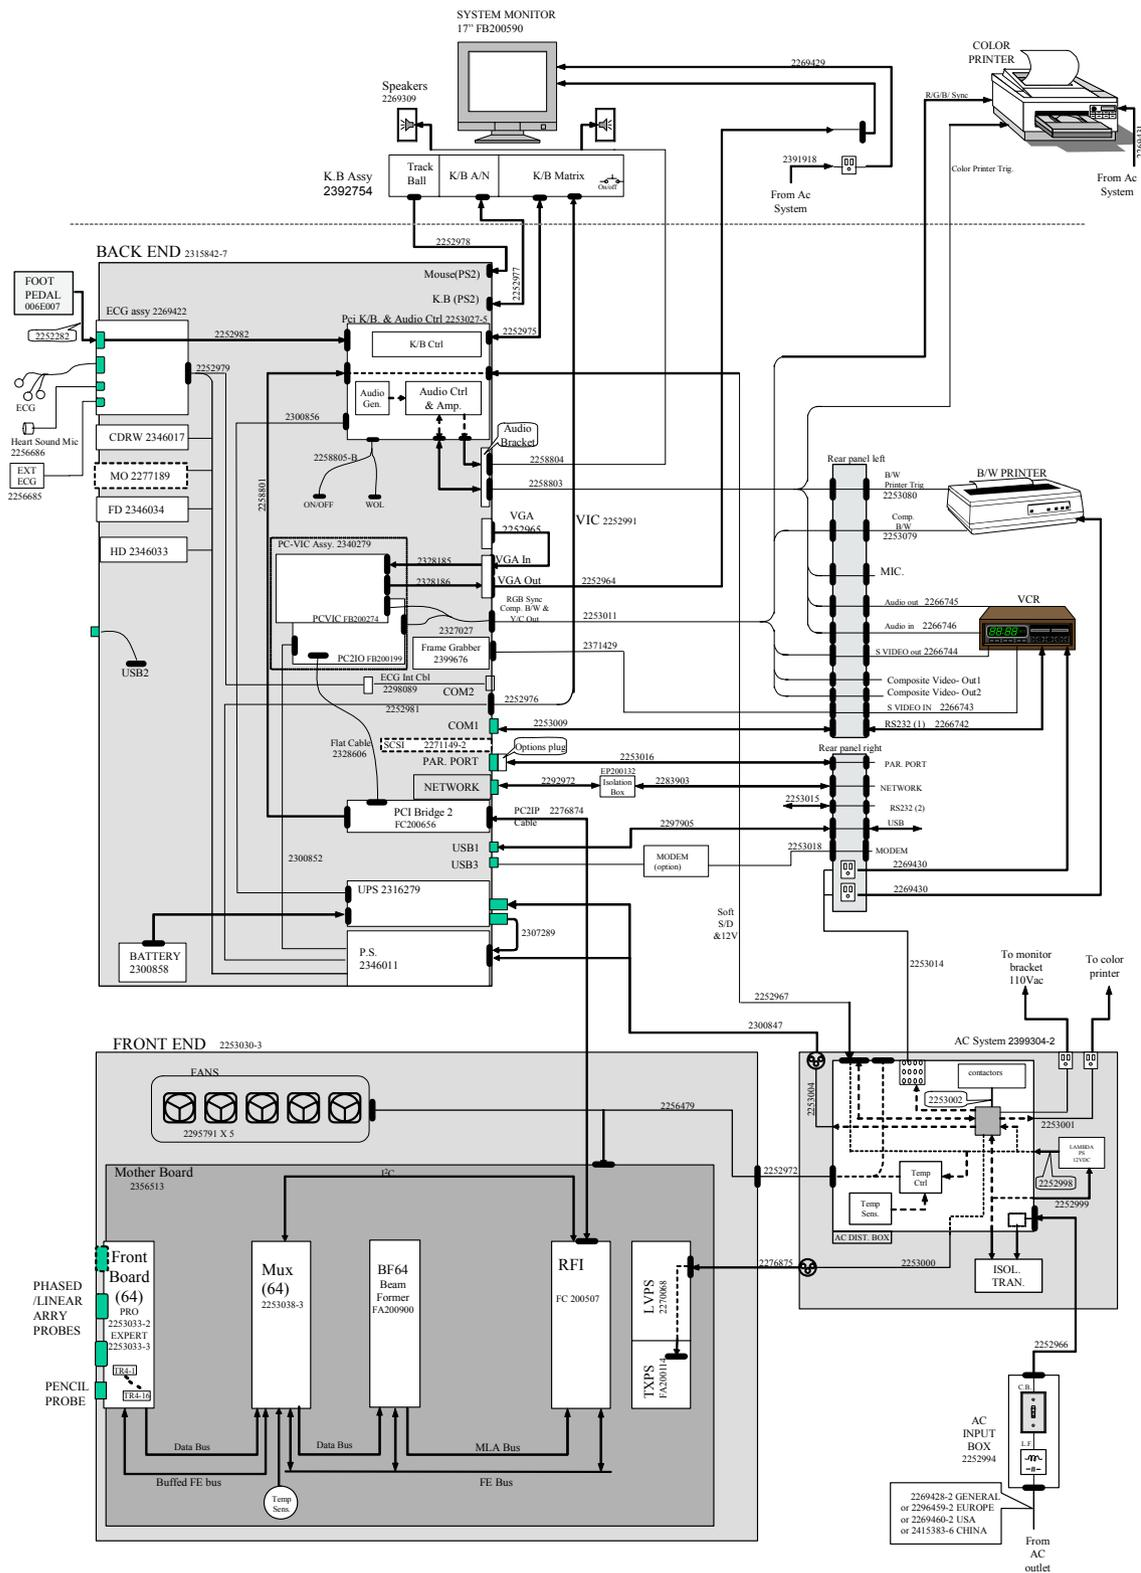

Figure 5-3 System Cabling Diagram - Vivid™ 4 BT03 Systems with RFI Configuration
- System Cabling Diagram - Vivid™ 4 BT03 Systems with RFI Configuration (see Figure 5-3 on page 5-5).